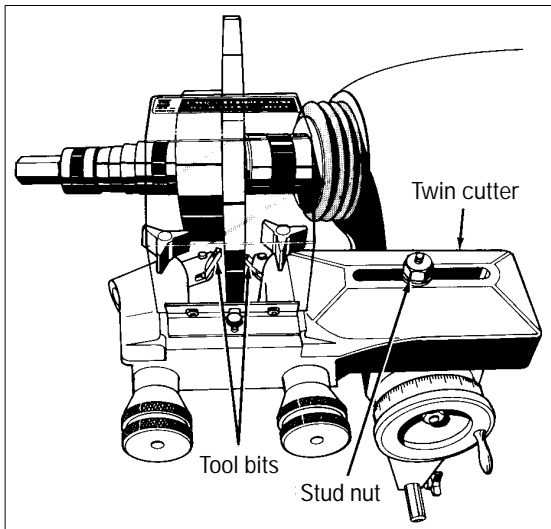

Figure 21 - Center the twin cutter
2. Center the twin cutter to the rotor (figure 21). Loosen the stud nut and adjust the twin cutter so that the rotor is centered between the tool bits. The slot of the twin cutter should be approximately parallel to the lathe spindle. Tighten the stud nut firmly.